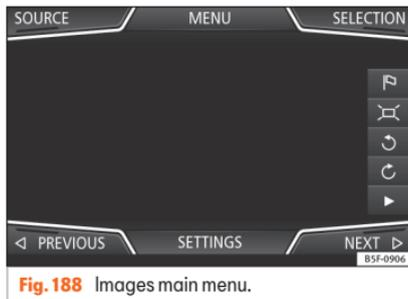

Fig. 188 Images main menu.
- Press the **SOURCE** »» **Fig. 188** function button and select the data storage device where the images are stored.